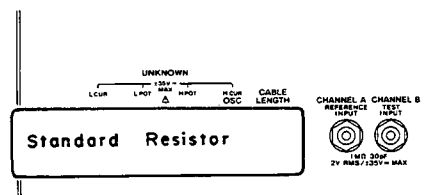

Figure 4-4. Resistance Accuracy Test Setup
- b. Connect the 100Ω standard resistor directly to the UNKNOWN terminals as shown in Figure 4-4.